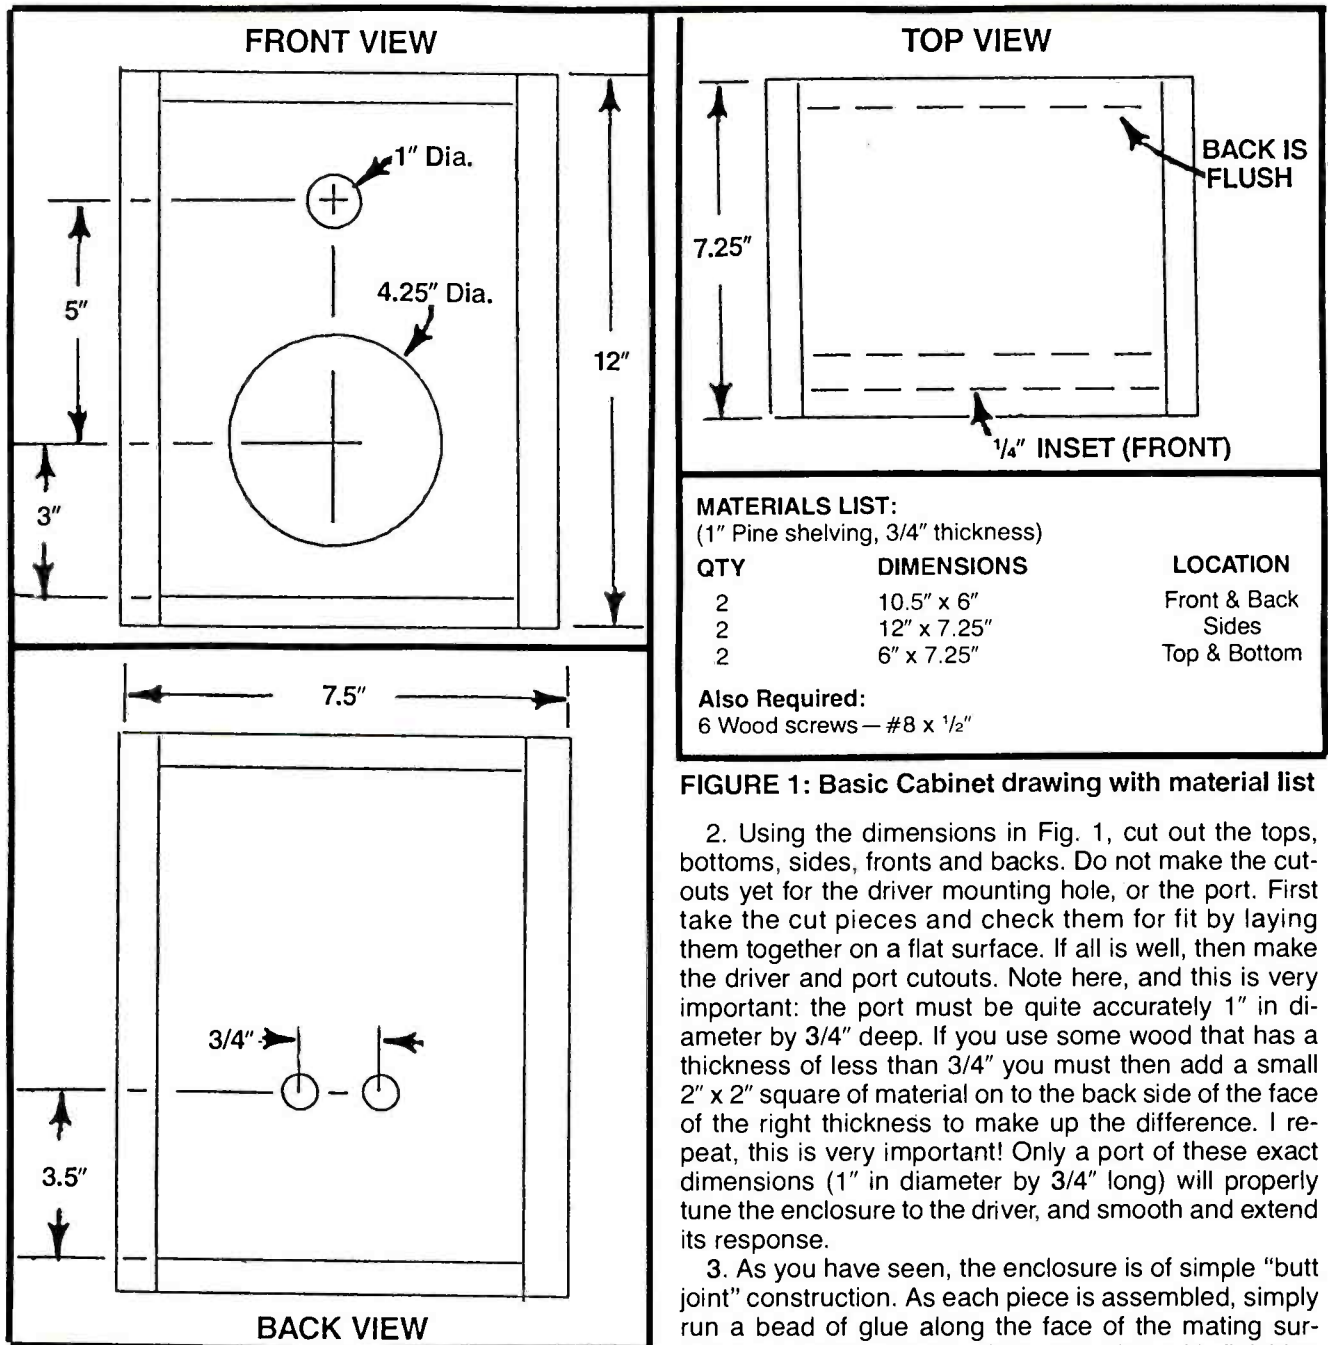

FIGURE 1: Basic Cabinet drawing with material list
**D**etails for our little system are shown in the photograph above and in Figure 1. A single cone, wide range driver with a very large magnet is used here, which can accommodate a substantial amount of power, is usable with any receiver or amplifier rated 5-30 watts per channel and can fill a bedroom or apartment sized living room with quite loud levels of sound that is very smooth and easy to listen to. Sounds like just the ticket for you? Then let's proceed.
Fig. 1, and its accompanying materials list gives us all the dimensions and quantities of wood for our system. Note here that we are using #3 pine shelving, 1 x 8 size (which as purchased is actually finished to 3/4" x 7 3/4"). The reason this is used, and not the usual "chip board" or MDF underlayment material is that it is easily cut, even with hand tools, and ready to finish with nothing more than some sandpaper and a paint brush. (But if you do have the appropriate wood working skills and equipment, then by all means use any material you choose.) Besides the wood shown in the list, the only other materials you will need are some wood glue (white glue or equivalent), a small quantity of 2" finishing nails, and a tube of silicon sealer. Tools needed are a circular saw, sabre saw, a drill with bits, and a hammer, plus some standard electronics hand tools and a soldering iron.
1. Obtain all the cabinet materials as shown in the list with Fig. 1. Note that this is only for one speaker: dou-
from the inside of the box around the back panel to be sure it will be well sealed. In the same way, place the front panel into the front of the box, being sure to observe the 1/4" recessing called for (see Fig. 1 again). Nail and glue it into place like the rear panel, except add the bead of glue from the front side. Use your finger tip to smooth the glue bead and spread it evenly around the entire face edge.
2. Using the dimensions in Fig. 1, cut out the tops, bottoms, sides, fronts and backs. Do not make the cut-outs yet for the driver mounting hole, or the port. First take the cut pieces and check them for fit by laying them together on a flat surface. If all is well, then make the driver and port cutouts. Note here, and this is very important: the port must be quite accurately 1" in diameter by 3/4" deep. If you use some wood that has a thickness of less than 3/4" you must then add a small 2" x 2" square of material on to the back side of the face of the right thickness to make up the difference. I repeat, this is very important! Only a port of these exact dimensions (1" in diameter by 3/4" long) will properly tune the enclosure to the driver, and smooth and extend its response.